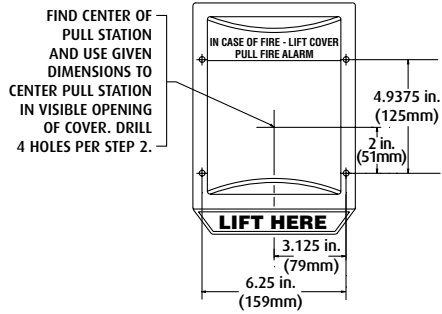

Fig. 1
1. Separate cover and frame leaving cables attached. Slide power switch, on back of horn housing, to "OFF" position (Fig. 5). Using frame or optional backplate (recommended with all Weather Stopper models) as a template, mark mounting holes on wall taking into consideration placement of pull station or refer to Fig. 1 for dimensional hole placement from center of clear opening.